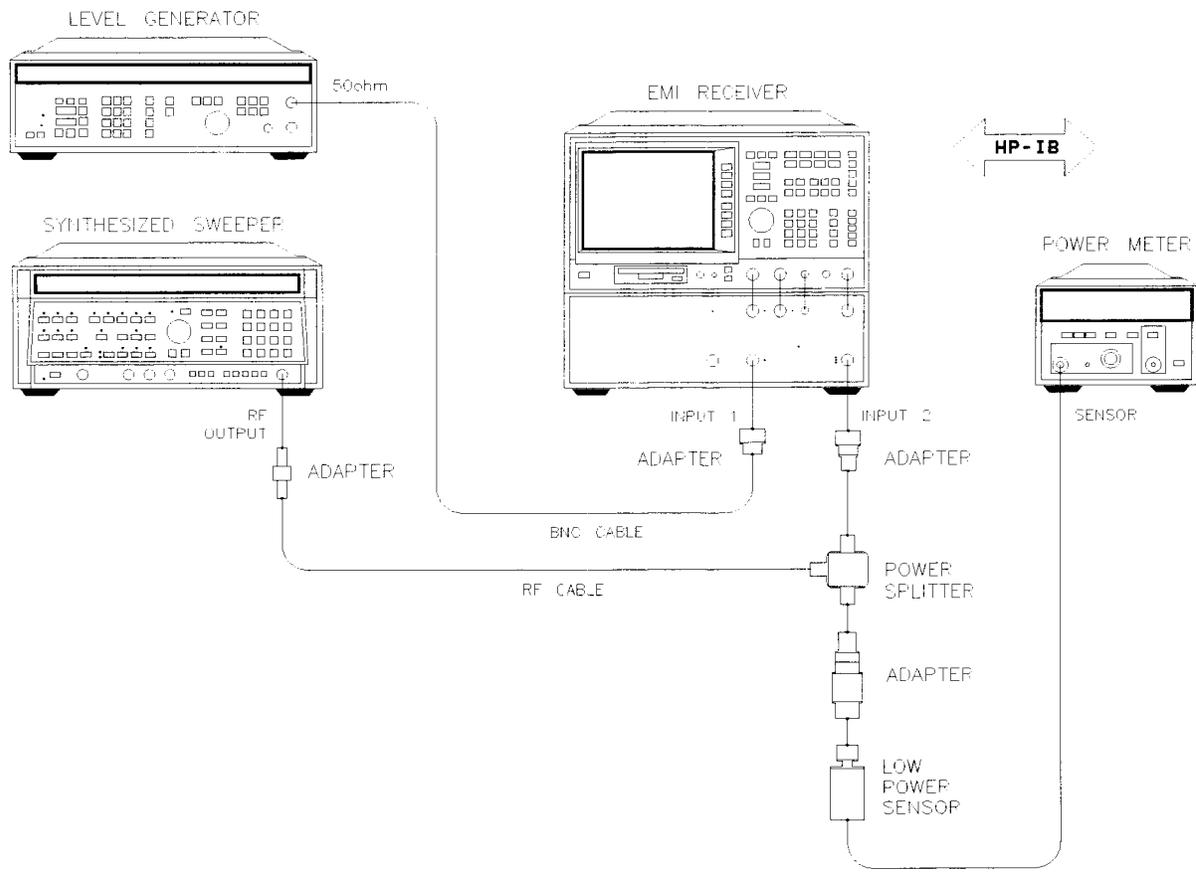

Figure 2-11 Low Frequency Calibration, Input 1 Setup
- The test equipment must be connected as shown in Figure 2-11 on page 2-39.
Refer to Figure 2-11 on page 2-39 for an illustration of the equipment setup.